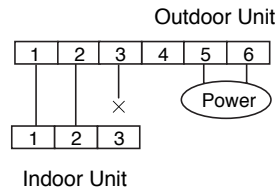

Fig. 7
2. Disconnect the cable from the terminal 3 on the indoor unit terminal strip. (Fig. 7)